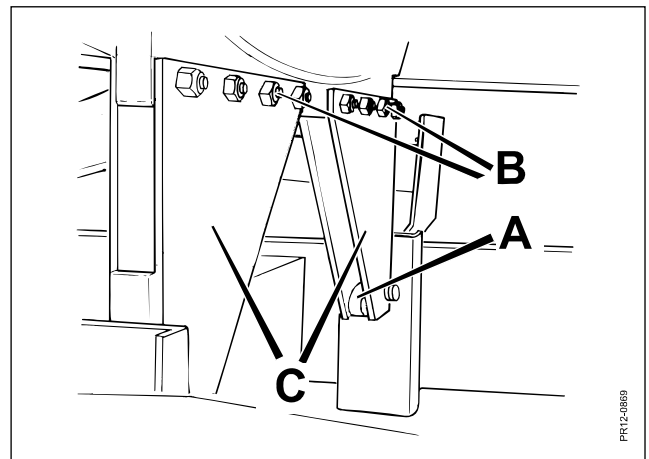

Fig. 9.9
Fig. 9.9 Support rollers for the tip (A) must ensure that there is no unnecessary play between undercarriage and mixing tank. Play and friction free guidance ensures a stable and good measuring of weight.